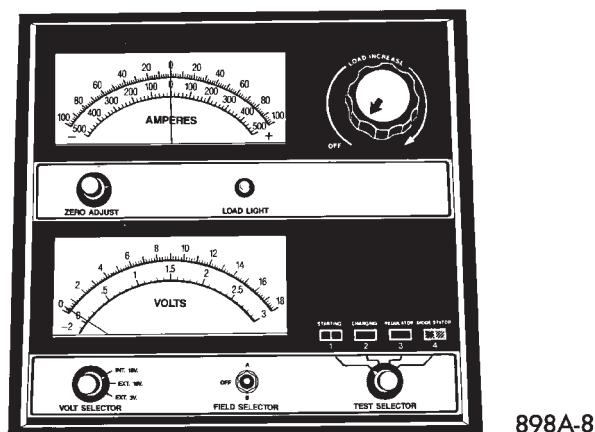
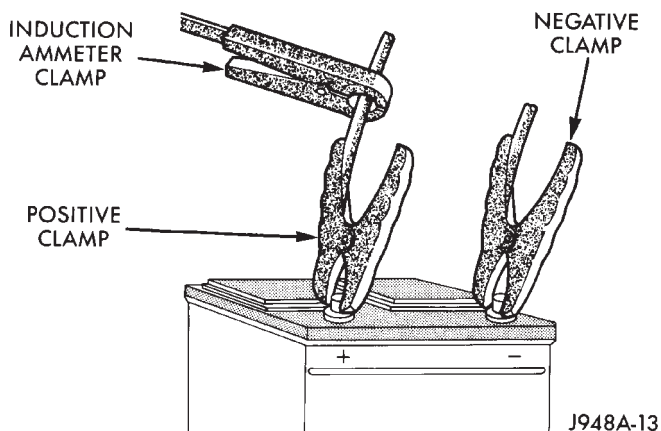

Fig. 5 Volt-Ammeter-Load Tester - Typical
Fig. 6 Volt-Ammeter-Load Tester Connections
(2) Connect a suitable volt-ammeter-load tester (Fig. 5) to the battery posts (Fig. 6). Refer to the operating instructions provided with the tester being used. Check the open-circuit voltage (no load) of the battery. Open-circuit voltage must be 12.4 volts or greater.